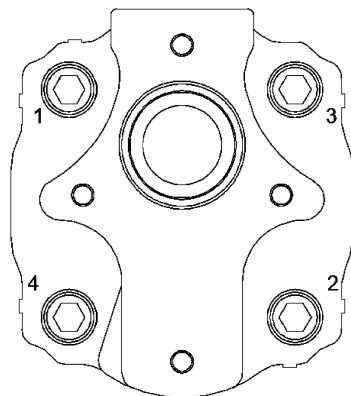

Fig. 7C.86. Screw Tightening Order
8. Fit rear cover (35) in position and loosely fit main fasteners screws (23). Torque screws in order shown in Fig. 7C.86 in two stages. Torque the four screws in crosswise order to 50% of full torque value first, i.e. $180 \pm 5\%$ [Nm]. Then tighten the fasteners to full torque of $360 \pm 5\%$ [Nm] in the same order.